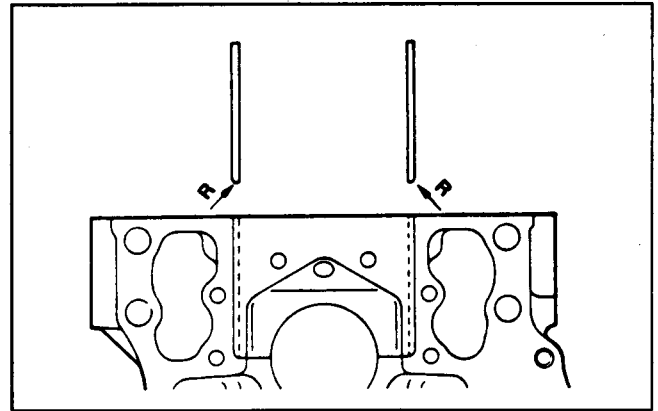

Figure 106
12. Apply sealant (Permatex No. 2 or equivalent) to the outside surface of the side seals. Install the side seals with the radius towards the outside of the engine (Fig. 106).